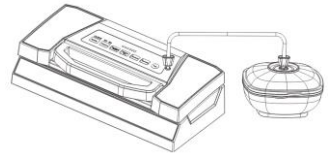

Fig.1
3. Insert one end of the hose into the air intake and another end of the hose into the center hole of the canister cover— **Fig. 1**